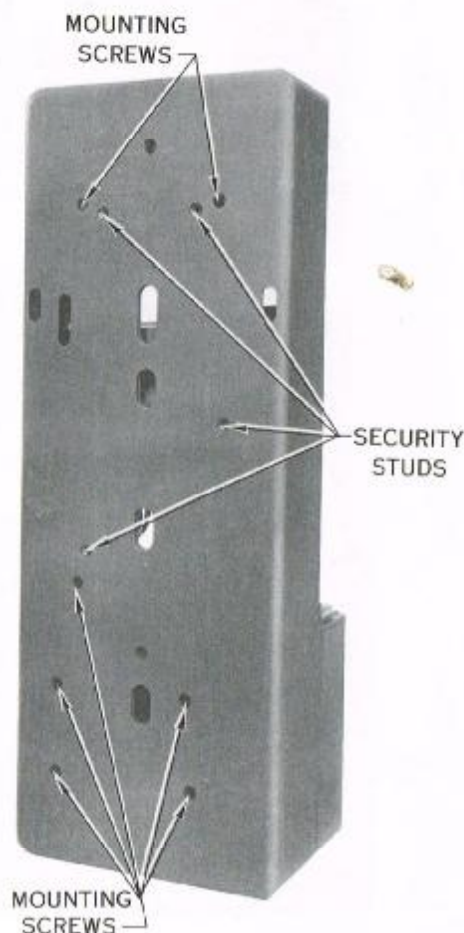

Fig. 5 — Location of Mounting Holes
5.05 Place four security studs in the 1A-type coin telephone. See Table A for proper security studs and Fig. 5 for location. Security studs are not provided with the telephone set and must be ordered separately.
5.06 Feed inside wire through entrance hole (Fig. 5) as set is put on backboard.